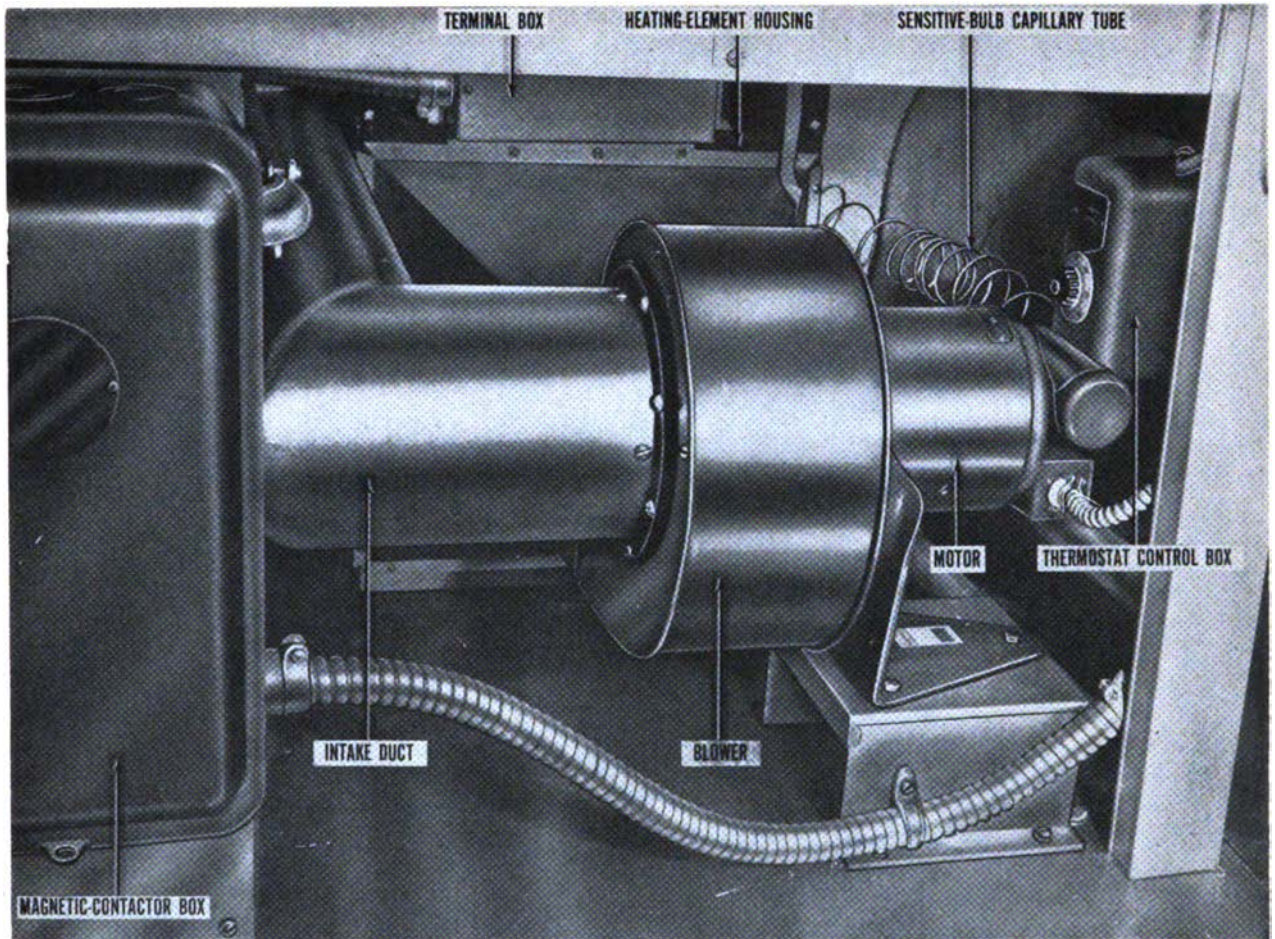

Figure 27. Electric space heater.
a. Description. The electric space heater is a forced-air-type heater (figs. 27 and 28). The heater, located in the utility compartment under the fume hood, keeps the temperature of the laboratory compartment constant. Cool air is drawn into the intake duct from the laboratory compartment and forced through heating elements. After being heated the air is forced along ducts and through duct outlets at the cabinet bases within the laboratory compartment. The heating unit consists of a bank of 9-finstrip elements mounted side by side in a steel frame. Air is forced through the heating unit and through the ducts by means of a motor with blower blades attached. The unit can be used to provide ventilation without heat.